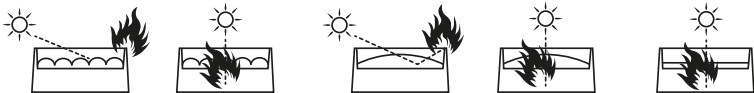

Figure 1.
**WARNING!** Position or shade the bar so that the front lens will not be exposed to sunlight or any other strong light source from any angle - even for a few seconds. See **Figure 1**. The LED STROBE lens can focused the sun's rays, creating a potential fire hazard and causing damage.